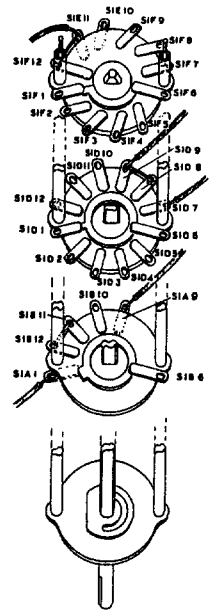
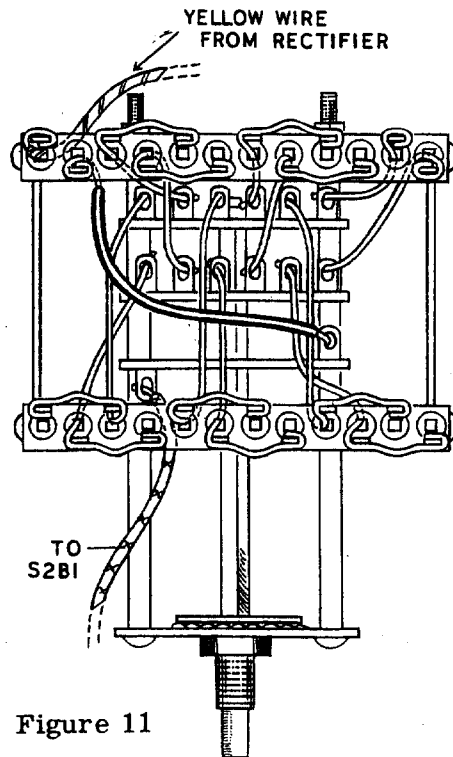

Figure 8
Figure 11
You will note in the exploded switch view, Figure 8, the sections are labeled S1A through S1F corresponding to each side of the three switch decks, starting at the front or shaft end of the switch. The terminals on each deck are numbered in a clockwise direction when viewed from the shaft end. This is common practice in switch construction. However, as we will be looking at the switch from the rear during wiring, the numbering will be found to run counterclockwise. This is mentioned here merely to prevent confusion.
- ( ) First review the preceding paragraphs, then refer to Figure 8.
- ( ) Connect a 3" length of wire to S1A1 (S). Leave the end free.
- ( ) Connect a 2" length of wire to S1A9 (S). Leave the end free.
- ( ) Connect a short bare wire from S1B12 (S) to S1B11 (NS).
- ( ) Connect an 8" length of wire to S1D7 (S). Leave the end free.
- ( ) Connect a short bare wire from S1D8 (S) to S1D9 (NS).
- ( ) Connect a 5" length of wire to S1D9 (S). Leave the end free.
- ( ) Connect a short bare wire from S1F12 (S) to S1E11 (NS).
- ( ) Connect a 5" length of wire to S1E11 (S). Leave the end free.
NOTE: To make the wiring easier to follow, the switch will be wired in two parts corresponding to the two halves on either side of the switch posts and the ring bracket. Also note the switch and ring numbering illustrated in Figures 8, 9 and 12. The wiring will follow a system based on the switch deck and number. For example, S1D4 refers to the #4 terminal on the range switch, middle deck. B8 refers to the #8 terminal on the B ring. In this particular case, the wire will continue on to B10. Where wires connect in this manner, care should be taken to avoid the in-between terminal B9 as shown in Figure 11. Although bare wire is used throughout the switch wiring, there is ample space to arrange wires to avoid each other. Thus the switch wiring may be done for the most part without the use of spaghetti, resulting in a much neater appearance. The wiring from ring to switch can best be accomplished by feeding the wire through the hole in the ring terminal lug until connection can be made to the switch terminal. Connect to switch terminal, arrange the wire properly to clear other wires or terminals, and finally wrap once around the ring terminal.
( ) Refer to Figure 11 for the following wiring.
NOTE: In the following wiring where connections are made to two terminals on the rings, the easiest method of doing so is as follows. Run the bare wire through the hole in the first terminal mentioned and connect to the proper switch terminal. Arrange the wire to clear. On the other end, bring the wire around the outside of the lug as shown in Figure 11, to the last terminal mentioned and wrap one turn around the terminal. Make sure the wire clears the terminal between the two connections.
- ( ) Connect a bare wire from B3 (NS) to S1F2 (S) and to B5 (NS).
- ( ) Connect a bare wire from B4 (NS) to S1D2 (S) and to B6 (NS).
- ( ) Connect a bare wire from A5 (NS) to S1F3 (S) and to A7 (NS).
- ( ) Connect a bare wire from A6 (NS) to S1D3 (S) and to A8 (NS).
- ( ) Connect a bare wire from B7 (NS) to S1F4 (S) and to B9 (NS).
- ( ) Connect a bare wire from B8 (NS) to S1D4 (S) and to B10 (NS).
- ( ) Connect a bare wire from A9 (NS) to S1F5 (S) and to A11 (NS).
- ( ) Connect a bare wire from A10 (NS) to S1D5 (S) and to A12 (NS).
- ( ) Connect a bare wire from B11 (NS) to S1F6 (S).
- ( ) Connect a bare wire from B12 (NS) to S1D6 (S).
- ( ) Connect a bare wire to S1B6 (S). Cover with a 2 3/8" length of spaghetti and connect to B2 (NS). Run wire as shown in Figure 11.